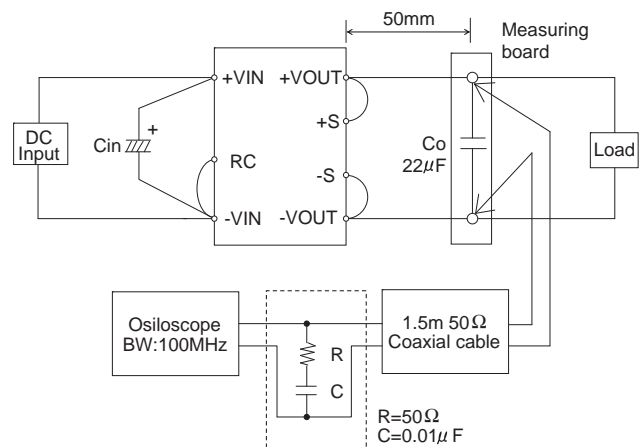

Fig.3.4 Measuring method of Ripple and Ripple Noise
■ Ripple and Ripple Noise are measured, as shown in the Fig.3.4. C_{in} is shown in Table 2.1.